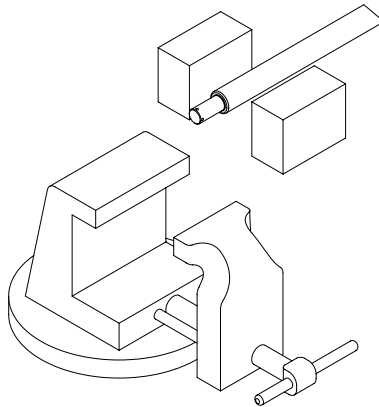

Figure 6-7, Cylinder Shaft
5. Clamp the rod assembly in a soft jawed vise on the wrench flats, not on the rod surface. If the rod does not have wrench flats use two pieces of wood on both sides of the rod to prevent scarring. (Figure 6-7)